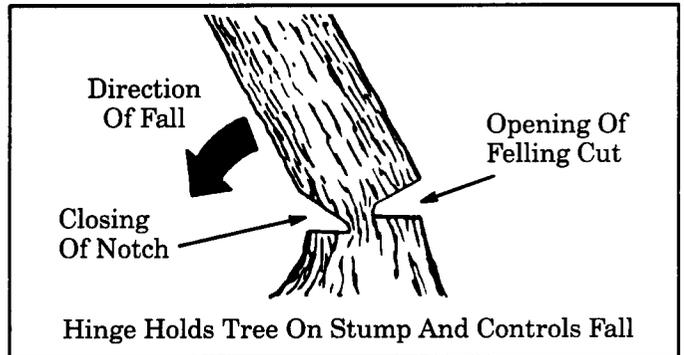

Figure 20
- b. Leave enough uncut wood between the felling cut and the notch to form a hinge. Figure 20 .